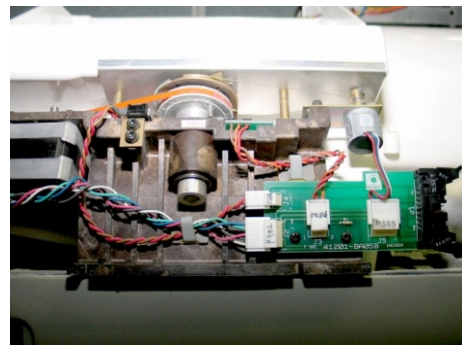

FIGURE 6
- 6) Lift the LMU by the base, tilt it to the front and then pull downward to clear the feeler arm post. (See Fig. 6)